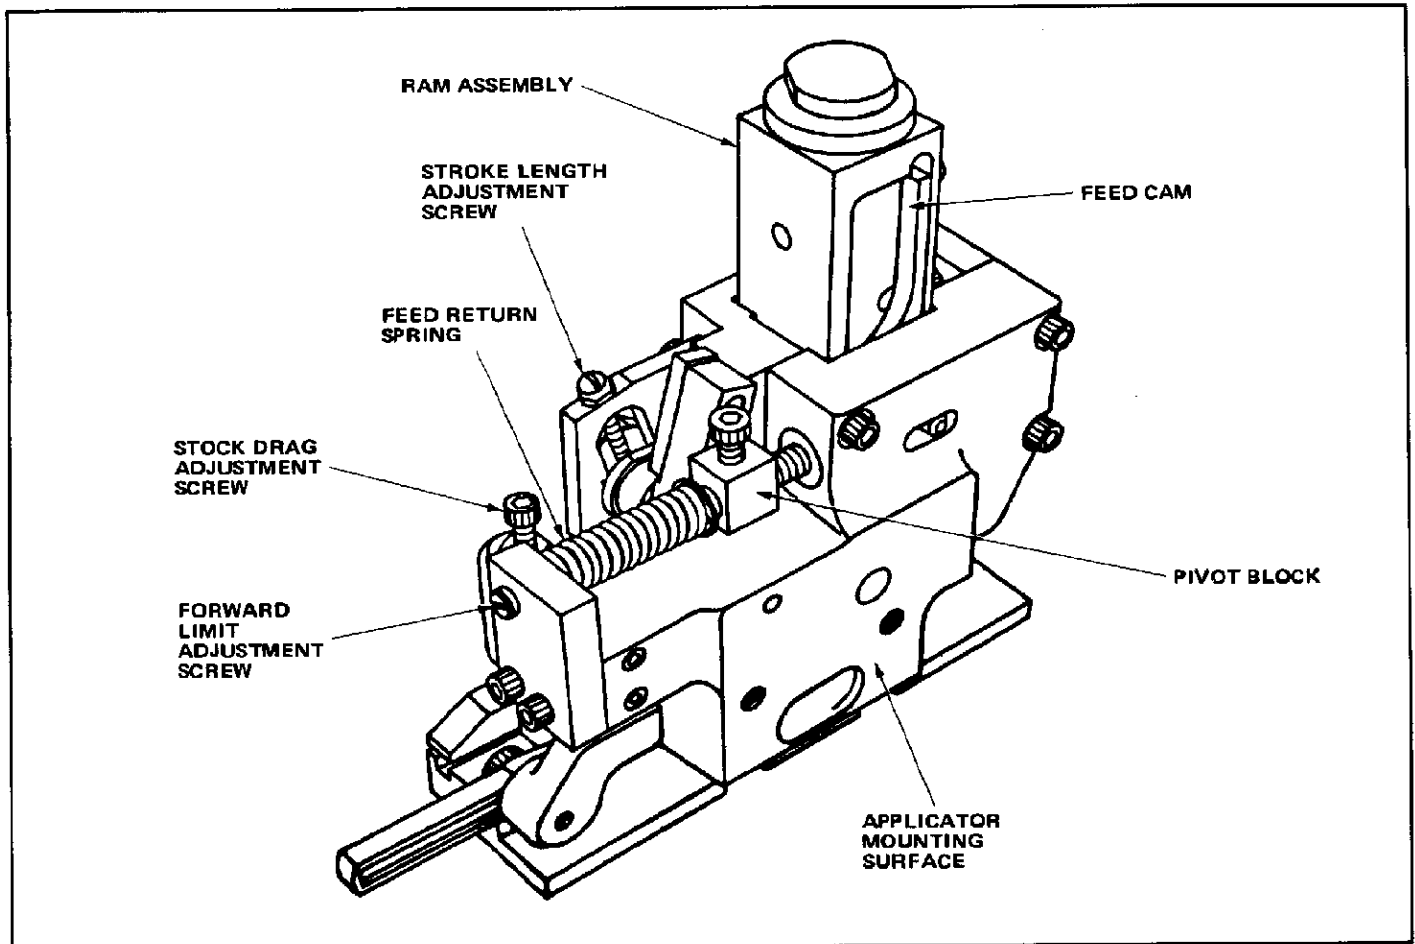

FIGURE 3
#### 4.1. Feed Finger Forward Limit Adjustment (See Figure 3)
#### 4.2. Feed Finger Stroke Length Adjustment (See Figure 3)
#### 4.5. Stock Drag Adjustment (See Figure 3)
3. Apply a drop of oil to forward limit adjustment screw, and to feed rod into which it is turned (see Figure 3).